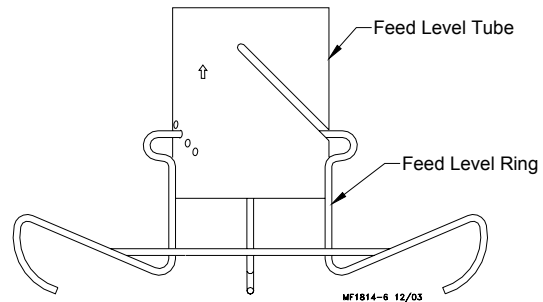

Figure 20. Adult Turkey Feeder Feed Level Ring
- Assemble the Feed Level Tube and Feed Level Ring as shown in **Figure 20**.
- Position the Feed Level Ring in the fourth hole from the top for the steel Adult Turkey Feeder Pan, **see figure 20**.